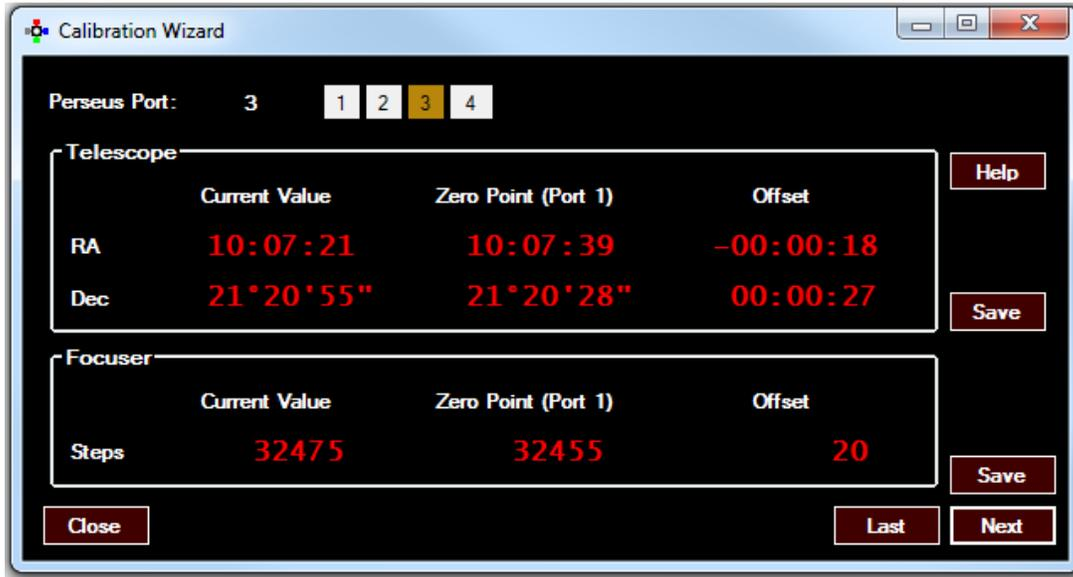

Figure 2. The Calibration Window showing a partially complete calibration (as of version 3.0.3).
8. You can now use the Calibration wizard (Figure 2) to set each port offset. Then whenever the Perseus changes ports it will automatically move the Telescope and/or Focuser by the offset for that port. All offsets are defined relative to the position of Port 1. If you do not have an instrument on Port 1 simply center on that port before opening the wizard and set the offset as 0 for the port that you want as your main port.